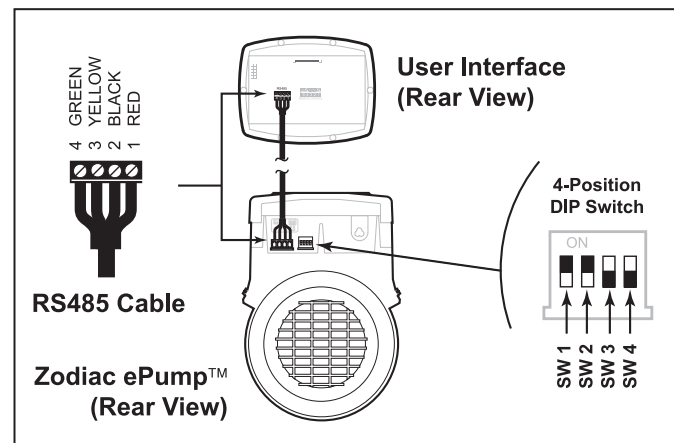

Figure 3. Wiring the User Interface to the Zodiac ePump™ Variable Speed Pump
2. Attach the four (4) wires in the RS-485 cable to the RS-485 connector. Make sure the colors match the positions on the User Interface. See Figure 3.
For the ePump™, the 4-position dip switch is located at the rear of the pump, as shown in Figure 3.